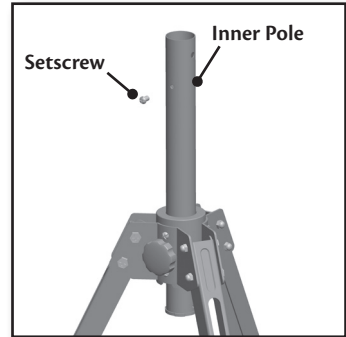

Figure 7
3. Remove the setscrew from the plastic package. Extend the inner pole and install the setscrew into the screw hole on the inner pole. Figure 7.